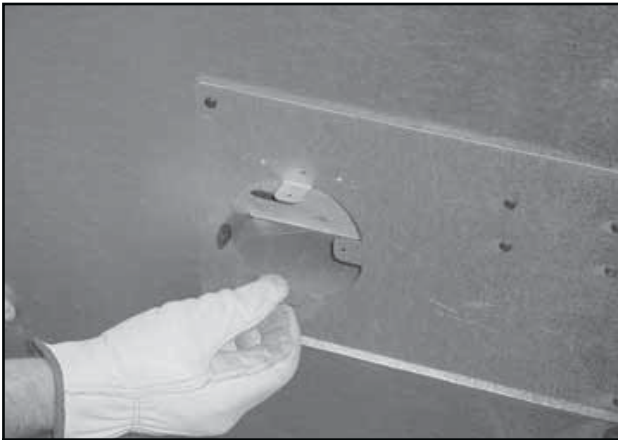

Figure 7.20 Bending Tabs on Outside Air Kit Collar
- Bend the four tabs out at 90 degrees. See Figure 7.20.